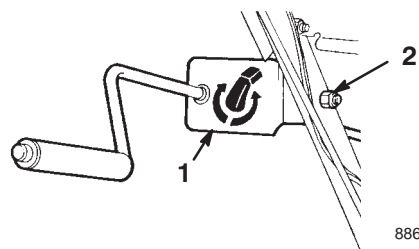

Figure 12
1. Assemble the chute control bracket and rod to the left side of the handle assembly with the bolt and the locknut as shown in Figure 12.
5. Tighten the locknut that secures the chute control bracket (Fig. 12).